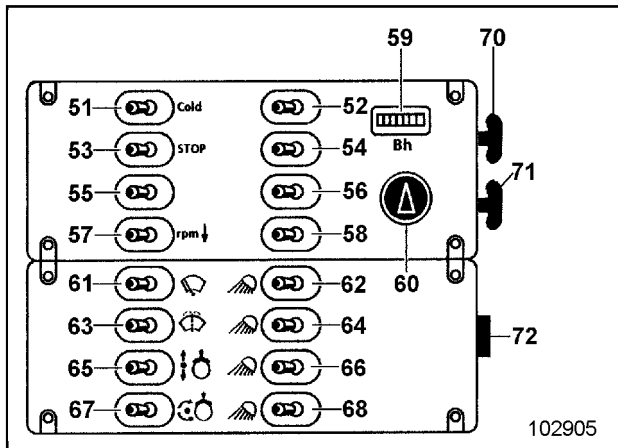

Fig. 3
- Turn speed control knob (70, Fig. 3) counter-clockwise to the limit stop (idling).
- Turn key in key-switch (72) to position "0" (electrical system without current).